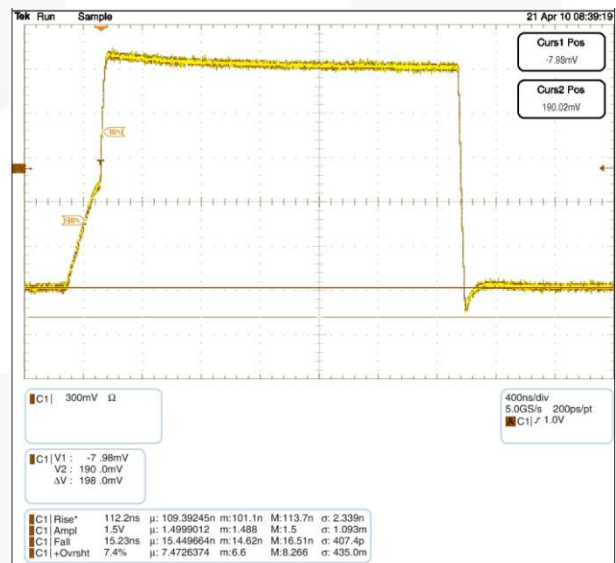

Figure 5. Waveform C: 600 pF, Total  $R_{PU}$ : 2.2 K $\Omega$
Due to I2C's open-drain topology, I2C masters and slaves are not push/pull drivers. Logic LOWs are "pulled down" ( $I_{sink}$ ), while logic HIGHs are "let go" (3-state). For example, when the master lets go of SCL (SCL always comes from the master), the rise time of SCL is largely determined by the RC time constant, where  $R = R_{PU}$  and  $C =$  the bus capacitance. If the FXMAR2102 is attached to the master [on the A port] and there is a slave on the B port, the Npassgates act as a low-resistive short between both ports until either of the port's  $V_{CC}/2$  thresholds are reached. After the RC time constant has reached the  $V_{CC}/2$  threshold of either port, the port's edge detector triggers both dynamic drivers to drive their respective ports in the LOW-to-HIGH (LH) direction, accelerating the rising edge. The resulting rise time resembles the scope shot in Figure 5. Effectively, two distinct slew rates appear in rise time. The first slew rate (slower) is the RC time constant of the bus. The second slew rate (much faster) is the dynamic driver accelerating the edge.